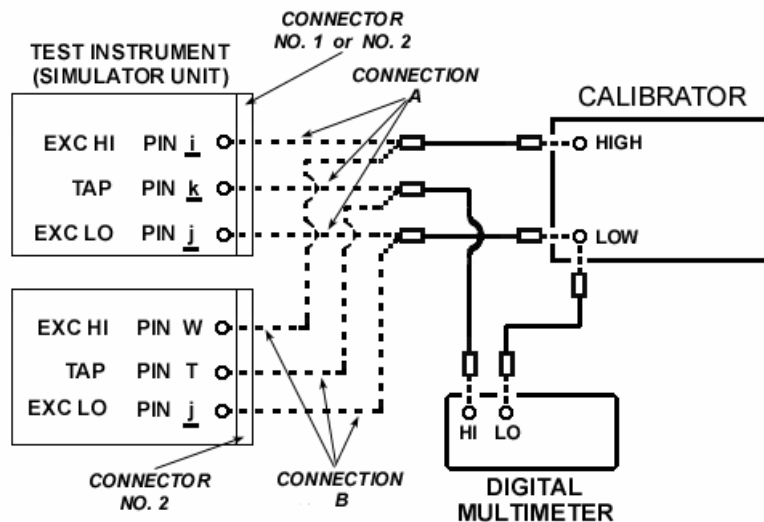

Figure 3. Engine oil pressure - equipment setup.
(1) Connect equipment as shown in figure 3, connection A for connector No. 1. Do not disconnect equipment connected in figure 1.
(2) Set TI **ENGINE OIL PRESS NO. 1 CAL/NOR** switch to **CAL** and **HI/LO** switch to **LO**.
- (3) Set calibrator for a 6 V, 400 Hz output.
- (4) Set **ON-OFF-SIM ONLY** switch to **SIM ONLY**. If multimeter does not indicate between 3.447 and 3.735 V ac, perform **b** (1) through (4) below.
- (5) Set **ENGINE OIL PRESS NO. 1 HI/LO** switch to **HI**. Multimeter will indicate between 2.770 and 3.058 V ac.
- (6) Set **ENGINE OIL PRESS NO. 1 CAL/NOR** switch to **NOR** and adjust **ENGINE OIL PRESS NO. 1** variable control from fully ccw to fully cw. If multimeter does not indicate from more than 3.447 to less than 2.770 V ac, perform **b** (1) through (3) and (5) and (6) below.
- (7) Set **ON-OFF-SIM ONLY** switch to **OFF** and calibrator to **STBY**.
- (8) Connect equipment as shown in figure 3, connection A, for connector No. 2.
- (9) Repeat (2) through (7) above except use **ENGINE OIL PRESS NO. 2** controls. If not within tolerance in (4) above, perform **b** (1) through (3) and (7) below. If not in tolerance in (6) above, perform **b** (1) through (3) and (8) and (9) below.
(1) Connect equipment as shown in figure 3, connection B, for connector No. 2. Do not disconnect equipment connected in figure 1.
(2) Set **XMSN OIL PRESS CAL/NOR** switch to **CAL** and **HI/LO** switch to **LO**.
(3) Set calibrator for a 6 V, 400 Hz output.
(4) Set **ON-OFF-SIM ONLY** switch to **SIM ONLY**. If multimeter does not indicate between 3.447 and 3.735 V ac, perform **b** (1) through (4) below.
(5) Set **XMSN OIL PRESS HI/LO** switch to **HI**. Multimeter will indicate between 2.696 and 2.984 V ac.
(6) Set **XMSN OIL PRESS CAL/NOR** switch to **NOR** and adjust **XMSN OIL PRESS** variable control from fully ccw to fully cw. If multimeter does not indicate from more than 3.447 to less than 2.770 V ac, perform **b** (1) through (3) and (5) through (7) below.
(7) Set **ON-OFF-SIM ONLY** switch to **OFF**.